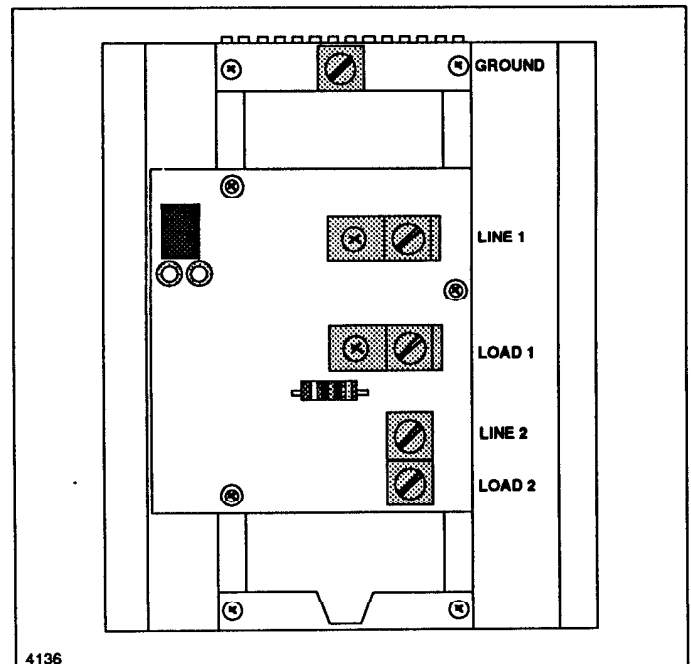
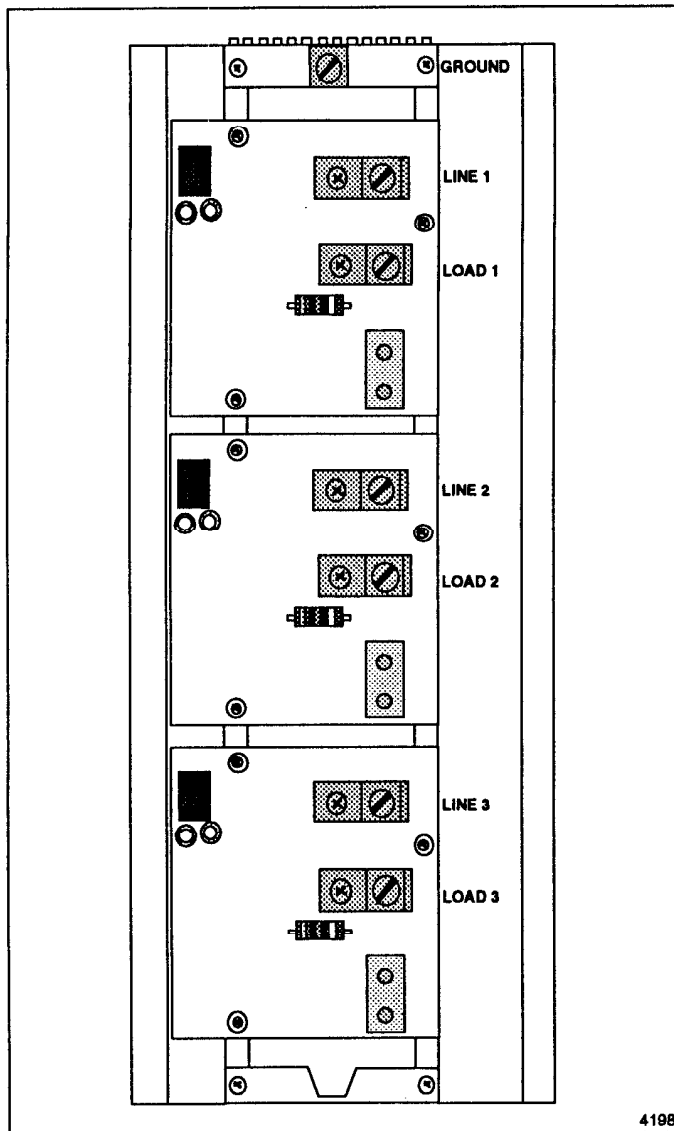

Figure 2-3. Typical model 664F LINE and LOAD connector locations.
Figure 2-4. Typical model 664G/K LINE and LOAD connector locations.
3. Attach the ground wire to the screw compression connector mounted at the end of the heat sink (figures 2-3 and 2-4).
- A. Attach the external power lines to the **LINE** connectors on the printed circuit board(s) (see figure 2-3 for the 664F or figure 2-4 for the 664G/K). On a model 664G/K controller, connect the phase A power line to the **LINE 1** connector, the phase B power line to the **LINE 2** connector, and the phase C power line to the **LINE 3** connector.